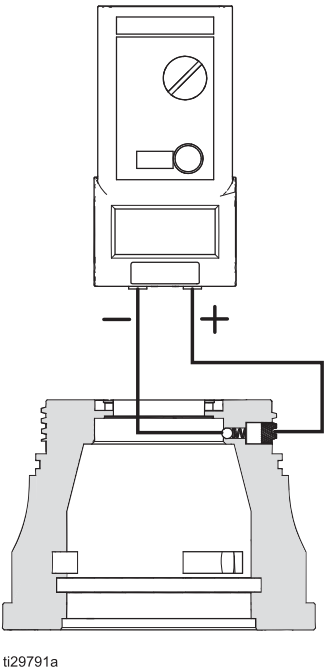

FIG. 23. Front Housing Resistance
- 3. If resistance is less than 0.1 megohm, reassemble and retest the full applicator. Make sure spring loaded contacts are clean and making contact with the mating surface. Refer to FIG. 23.